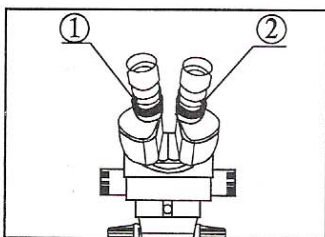

Fig.3
- 5) Observe the specimen through the right eyepiece and make the image clear by turning the right diopter adjusting ring ②. (Fig.3)
- 6) Redo the step (1), (3), (4) and (5) till the right adjusting ring is more precision.
- 7) Do the step (4) and make the image clear which is observed through the left eyepiece by turning the left diopter adjusting ring ①. (Fig.3)